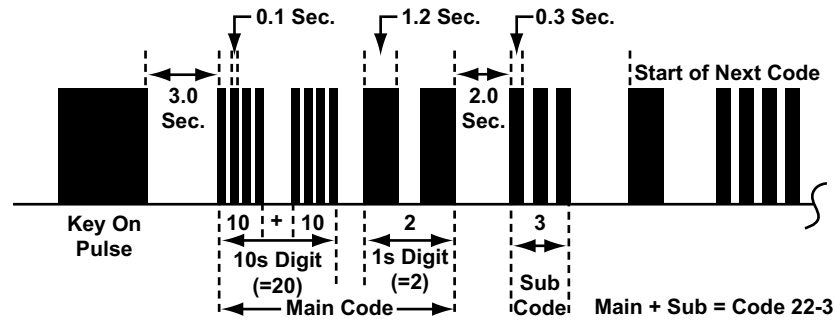

Figure 8-21 Honda SRS Code Type 06
- Type 06, see Figure 8-21 and Table 8-12 on page 68